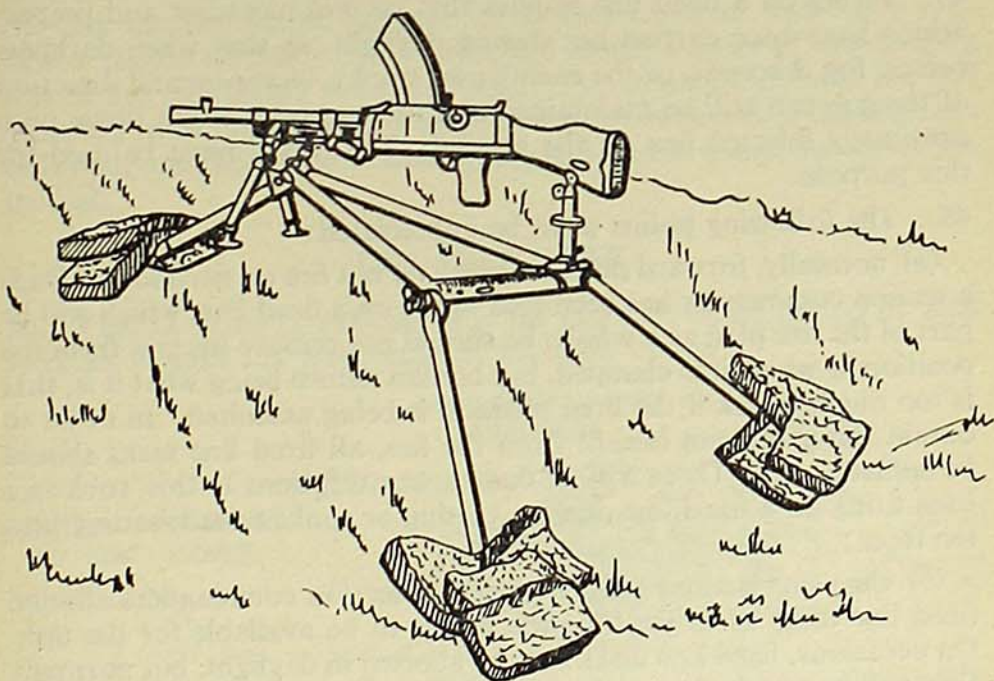

FIG. 11
45. Figure 11 shows gun and tripod mounted ready to fire with: